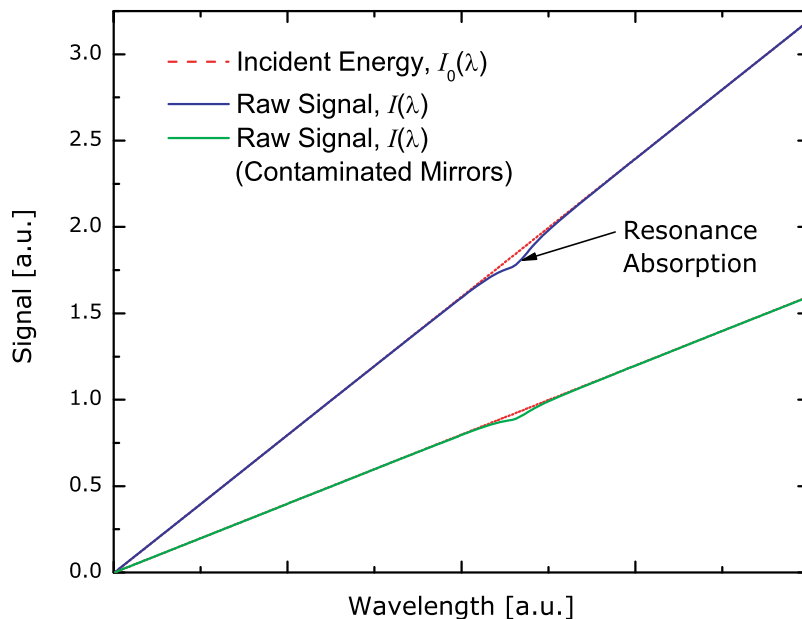

Figure 1-2 Typical raw signal from a laser diode absorption spectrometer with and without mirror contamination.
- Figure 1-2: Typical raw signal from a laser diode absorption spectrometer with and without mirror contamination. 1-6
Figure 1-2 shows typical raw data from a laser absorption spectrometer scan including the incident laser intensity, $I_0(\lambda)$, and the transmitted intensity, $I(\lambda)$, for a clean system and one with contaminated mirrors (shown to illustrate the systems relative insensitivity to mirror contamination). The positive slope of the raw data results from ramping the current to tune the laser, which not only